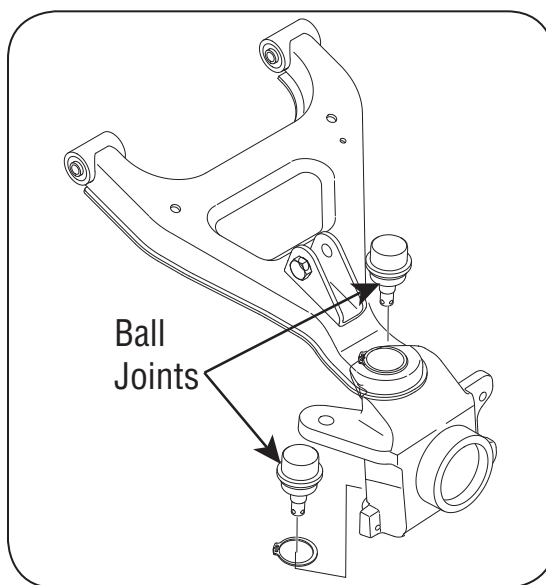

Figure 11
1. Inspect the upper and lower front A-arm ball joints on each side of the vehicle and the two tie rod ends for wear every 100 hours or once a year. See Figure 11. If excessive wear appears, have ball joints or tie rod ends replaced by your local Cub Cadet dealer.